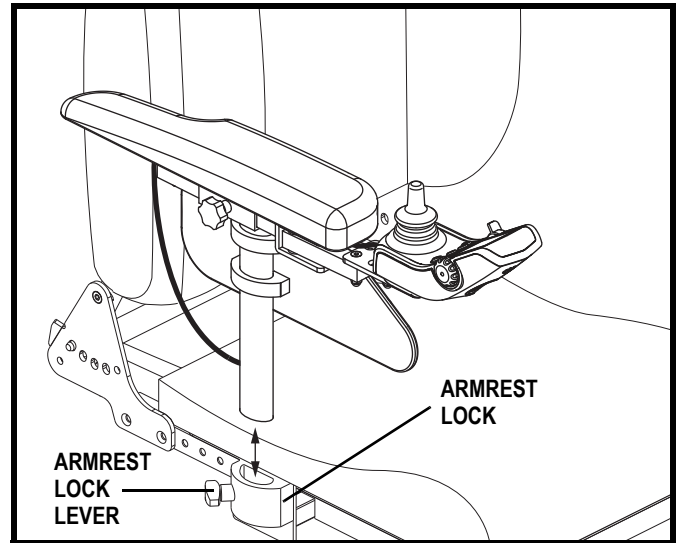

Figure 16. Armrest Adjustments
1. Pull out the armrest lock lever. See figure 16.
1. Place the armrest assembly into the armrest lock. See figure 16.